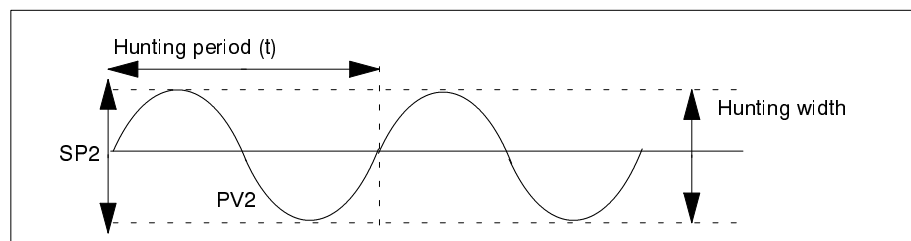

Figure 17
7. The controller begins to perform an oscillating control pattern on your process. It is very important to monitor the Hunting Width and Hunting Period as closely as possible. These values will be used to calculate your final PID values (Figure 17).